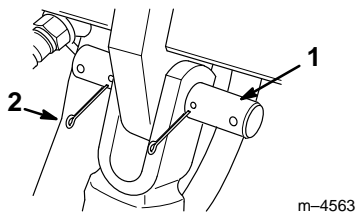

Figure 6
4. Install the new pin into position and secure it with two cotter pins (Fig. 6).